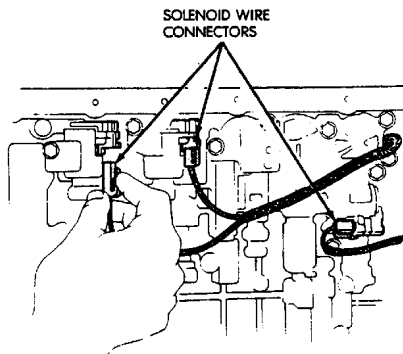

Fig. 7 Solenoid Wire Connectors
- (4) Disconnect solenoid wire connector (Fig. 7).
- (5) If all solenoids are being removed, mark or tag wires for assembly reference before disconnecting them.
- (6) Remove bolt attaching solenoids to valve body and
(1) Remove oil pan and oil screen. Refer to Solenoid Removal procedure.
(2) Disconnect solenoid wire connectors (Fig. 7).
(3) Disconnect solenoid wire connectors (Fig. 7). Mark wires for assembly reference.